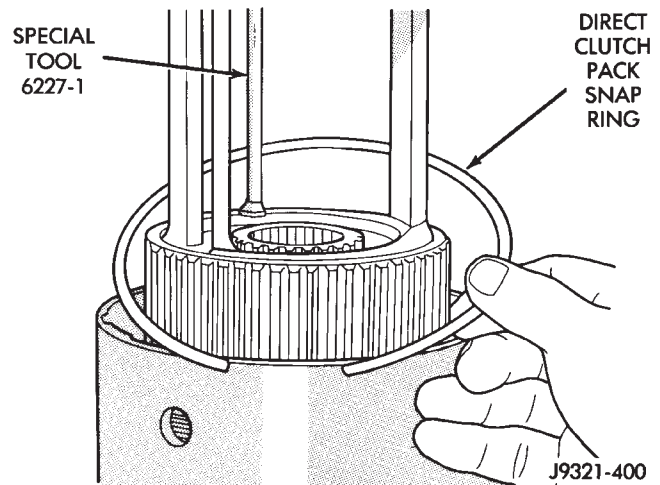

Fig. 54 Installing Direct Clutch Pack Snap Ring
(28) Install direct clutch pack snap ring (Fig. 54). **Be very sure snap ring is fully seated in clutch drum ring groove.**